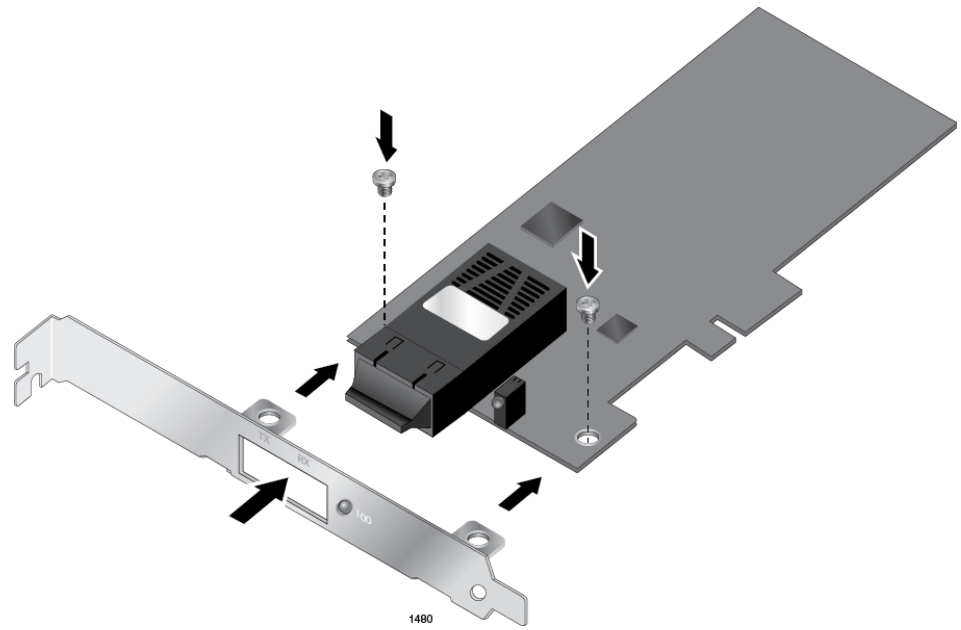

Figure 8. Fastening Screws onto Standard Bracket
2. Align the tabs of the standard bracket with the holes on the network adapter and fasten the screws onto the network adapter. See Figure 8 on page 29.